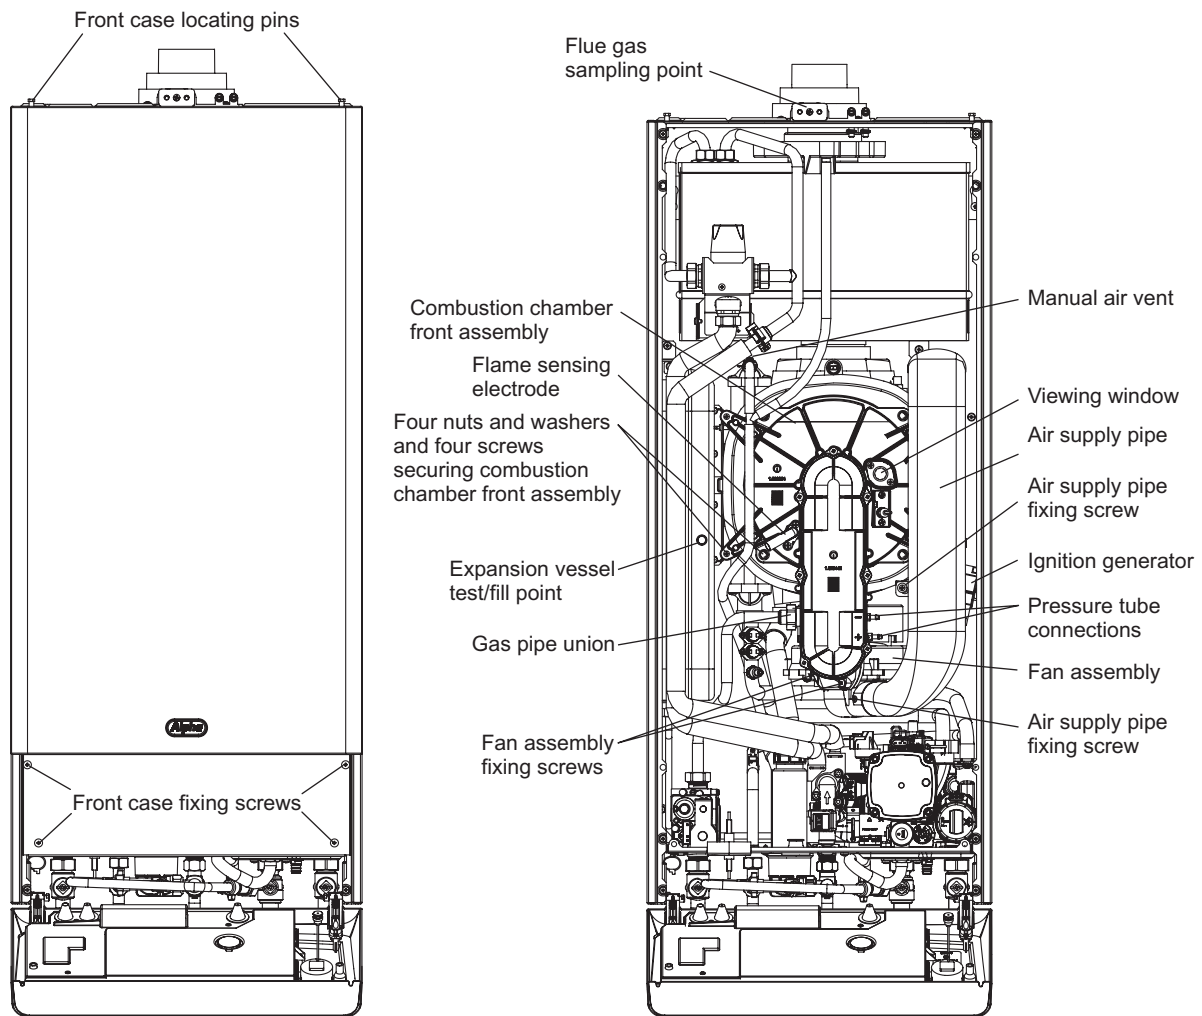

Fig. 6.1
Connect the flue gas analyser to the flue gas sampling point as shown in Fig. 6.1.
Notes: 1. Prior to servicing, it is recommended that a flue gas analyser is used to measure the performance of the boiler (refer to Fig. 6.1 for the position of the flue sampling point). If the CO/CO₂ ratio measured is greater than 0.003 **or** when other checks and comments from the customer have indicated that there may be problems, cleaning of the heat exchanger will be necessary. All Sections 6.1, 6.2, 6.3 and 6.4 **must** be carried out. Repeat the flue gas analyser test after reassembling the boiler and check that the CO/CO₂ ratio is less than 0.003.
3. Refer to Fig. 6.1 for location of flue sampling point.
6.2 PREPARE FOR SERVICING - Fig. 6.1
7.1 GENERAL ACCESS - Fig. 6.1
7.5 FAN - Fig. 6.1
2. Remove the two screws securing the air supply pipe (see Fig. 6.1) and remove the pipe.
3. Unplug the fan plug and remove the two screws securing the fan to the combustion chamber front (see Fig. 6.1).
2. Remove the screw securing the air supply pipe (see Fig. 6.1) and remove the pipe.